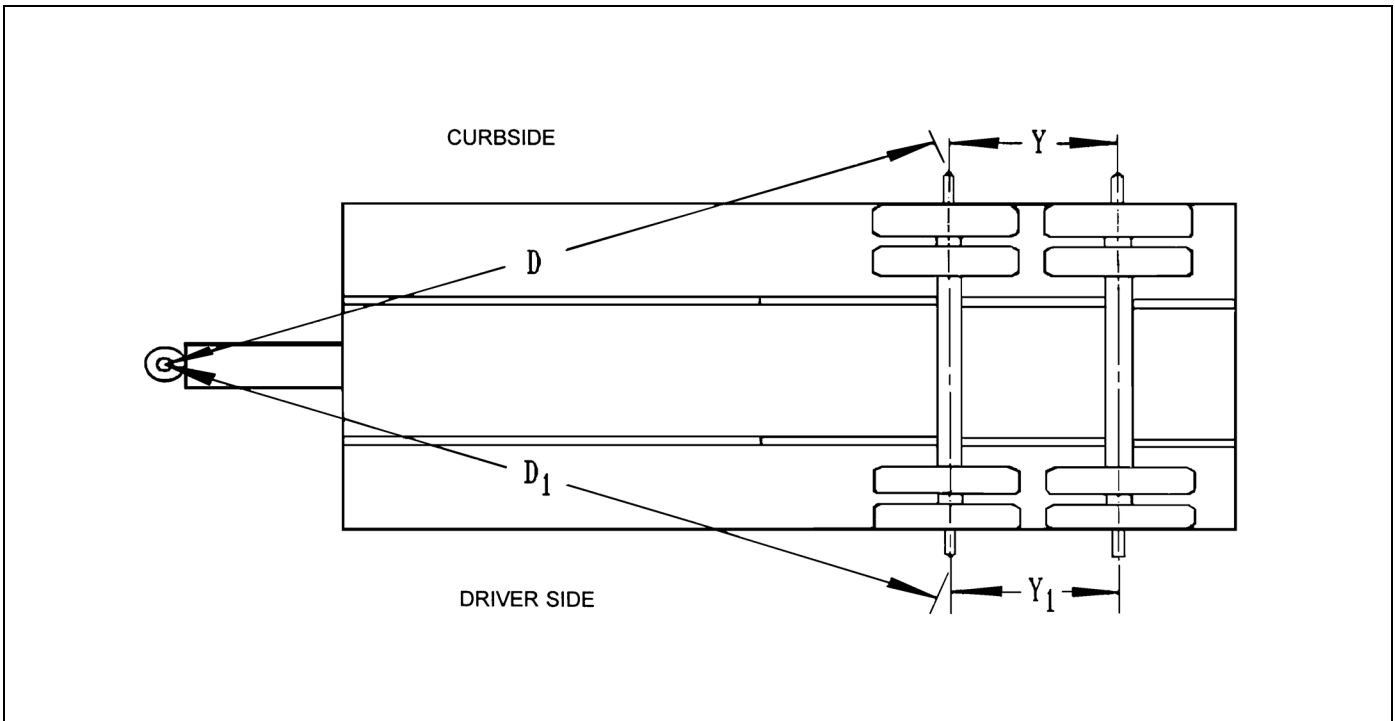

Figure 4-8: Checking Axle Alignment
4. Measure (D) from the plumb bob to the center point on one end of the axle. Record this measurement **(See Figure 4-8.)**
5. Measure (D1) to the other end of the axle in the same manner as in **Step 4**. Record this measurement **(See Figure 4-8.)**